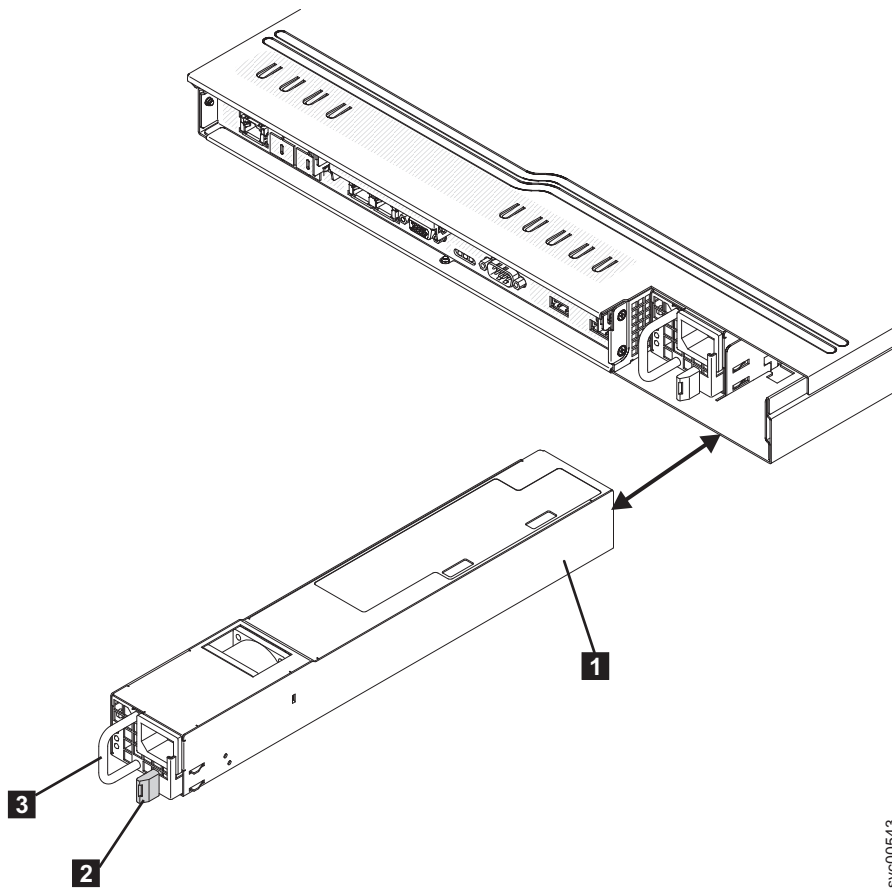

Figure 199. SAN Volume Controller 2145-CG8 or 2145-CF8 power supply
5. To remove the power supply **1**, press and hold the release tab **2** to the left. Grasp the handle **3** on the rear of the power supply, as shown in Figure 199, and pull the power supply out of the node.